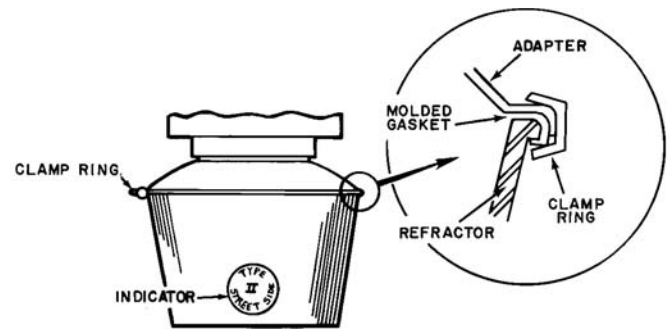

FIGURE 2
- 2) Locate the glass refractor alignment indicator marked "STREET SIDE" and rotate the refractor until this indicator is oriented on the same side as the area to be illuminated. The arrows should be aligned parallel to the long axis of the area to be illuminated (See Figures 2 & 3).
- 6) Locate the plastic refractor alignment indicator marked "HOUSE SIDE" and rotate the refractor until this indicator is oriented 180 degrees from the area to be illuminated. The arrows should be aligned parallel to the long axis of the area to be illuminated (See Figures 2 and 3).